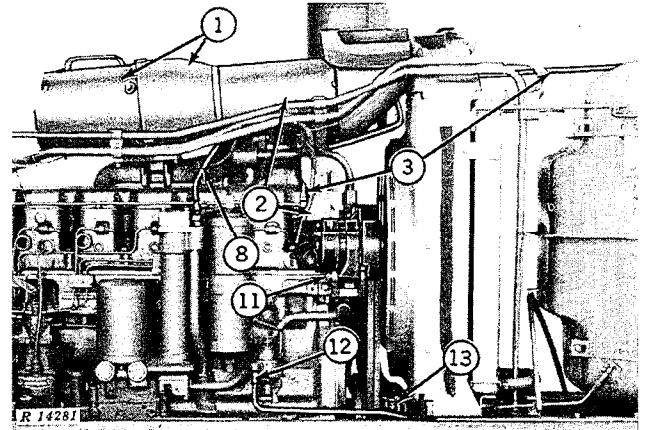

Fig. 19—Right Side of Engine
1. Remove air cleaner element cans, and air cleaner body (Figs. 19 and 20).
2. Remove pre-cleaner and hydraulic pipe support (Fig. 19).